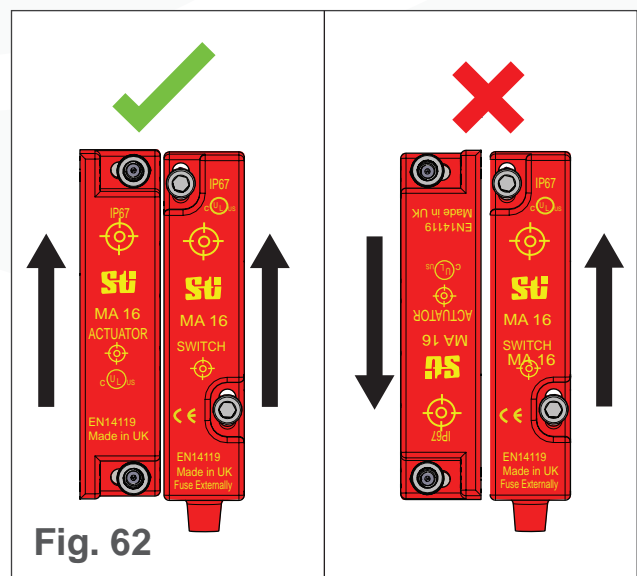

Fig. 62
- Check the safety interlocks are installed in the correct orientation (see Fig. 62) . The top
of both red sensors have text. Ensure the text is facing the same direction on both sensors and the sensors are no more than 1/8" apart (see Fig. 62).